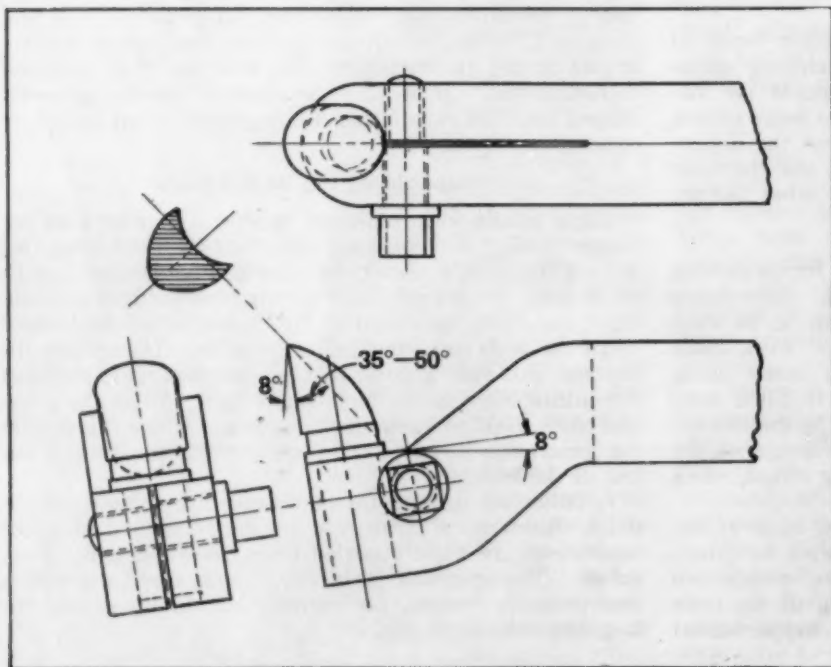
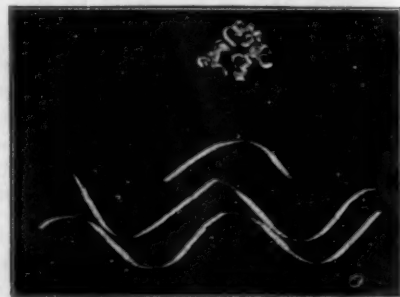
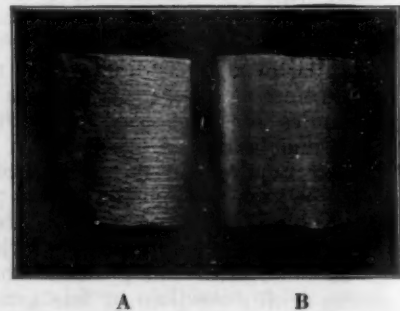

Fig. 2.—Good Type of Lathe Tool.
Fig. 3.—Continuous Chips
Fig. 4.—A—Finish Produced by Brass Tool.
Fig. 2—Mounted on a turntable in the large power-ventilated spray booth, big apparatus is sprayed by Thomas Cassidy. The apparatus is later dried in the oven directly behind the booth.
Fig. 3—The japan room. Left to right: drying rack, small spray booth, baking oven (into which Charles Stone is placing equipment he has just sprayed), and crystallizing oven. Exhaust systems are coupled to all these units.
Fig. 4—Floor Plan of the plating room. The cleansing baths are: A—clean water; B—soap solution; C—preliminary wash water; D—alkaline electrolytic cleaner; E—bright acid dip; F and G—hydrochloric acid pickles for (F) steels and (G) brasses; I—cyanide dip; H and J—clean running water.
A lathe tool of the type shown in Fig. 2, possesses a number of advantages not usually obtainable with the customary type of tool bit. This tool is readily re-sharpened by holding its shank in the chuck of a tool grinder or an engine lathe and grinding off the outside diameter until the desired keen edge is obtained. Such grinding should be followed by stoning as previously indicated. By rotating the tool bit in its holder, the angles of the cutting edge and side rake can be varied considerably to suit the needs of the work being done. Tools of this type are now obtainable in various sizes on the open market. Many of these tools however, differ from the one shown in
Tools similar to the one indicated in Fig. 2 can be ground from ordinary high speed steel, tool bit stock, but the amount of grinding required materially increases the cost of preparing the tool. When so prepared, it is also somewhat more difficult to maintain the proper cutting angles during re-sharpening than it is with the type just recommended. It is more economical to use properly shaped tool bits rather than those ground from square or rectangular stock.
Tools of the form indicated in Fig. 2 may be used for rough turning and finishing cuts, but when the same tool is used for both, it should be re-stoned before making the finish cut. In general, tools of this type produce continuous chips which, as shown in Fig. 3, are but slightly curled when the tools are functioning properly. Decreasing the top and side rake angles, that is, increasing the angle of the cutting edge of the tool, causes more curl in the chips, and tends to break them up. At the same time it increases the generation of heat, and thereby tends to decrease the life of the tool.
A lathe tool ground for machining brass produced the finish shown on specimen A, in Fig. 4, and during the machining, the tightly curled chips shown in Fig. 3 resulted. The specimen B, in Fig. 4, was machined with a tool properly ground for turning aluminum, giving the long chips shown in Fig. 3.
The reader will readily appreciate that tools of the form shown in Fig. 2, when used in a holder of insufficient stiffness, will tend to "root" into the work, especially when making heavy cuts. Experience has shown, however, that when these tools are properly used they actually stand up better and remove more metal than the more rugged appearing tools.
By making suitable modifications, the form of tool shown in Fig. 2, can be adapted to boring operations and for use in shaper or planer work. In these cases, however, emphasis must be placed upon the stiffness requirement for the tool holder. Other tools such as facing, parting, circular, forming and skiving should embody, as far as possible, the same requirements that have been indicated for the lathe tool shown in Fig. 2.